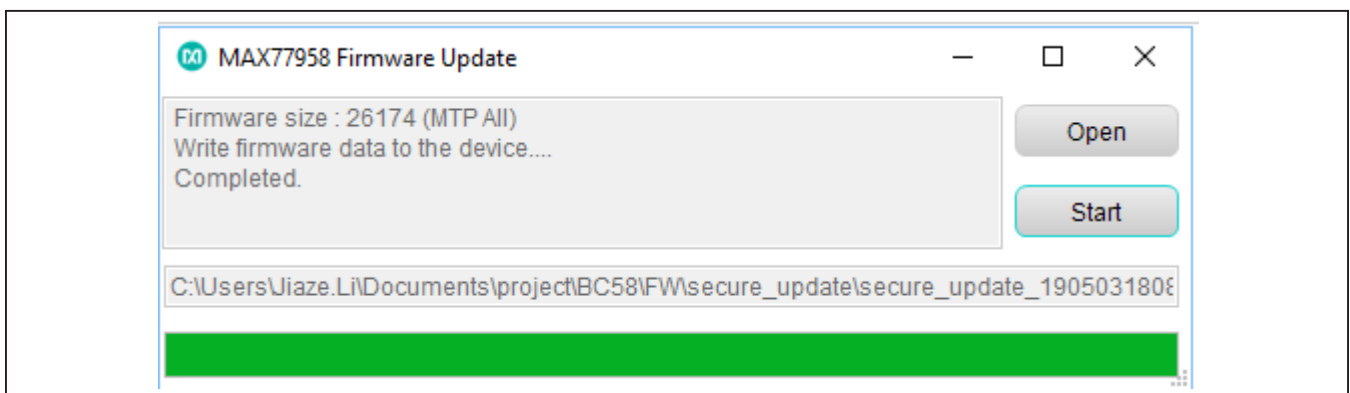

Figure 13. Firmware Update Process Complete
- 5) Figure 13 shows the firmware update process complete.